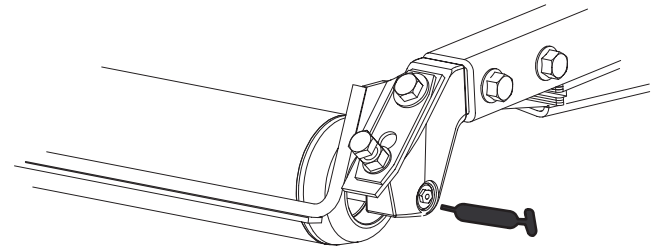

Figure 40
- Rear roller bearings (2 per cutting unit) (Fig. 40)
Note: The flush fittings on the rollers (Fig. 40) require a grease gun nozzle adapter. Order Toro Part No. 107-1998 from your Authorized Toro Distributor.